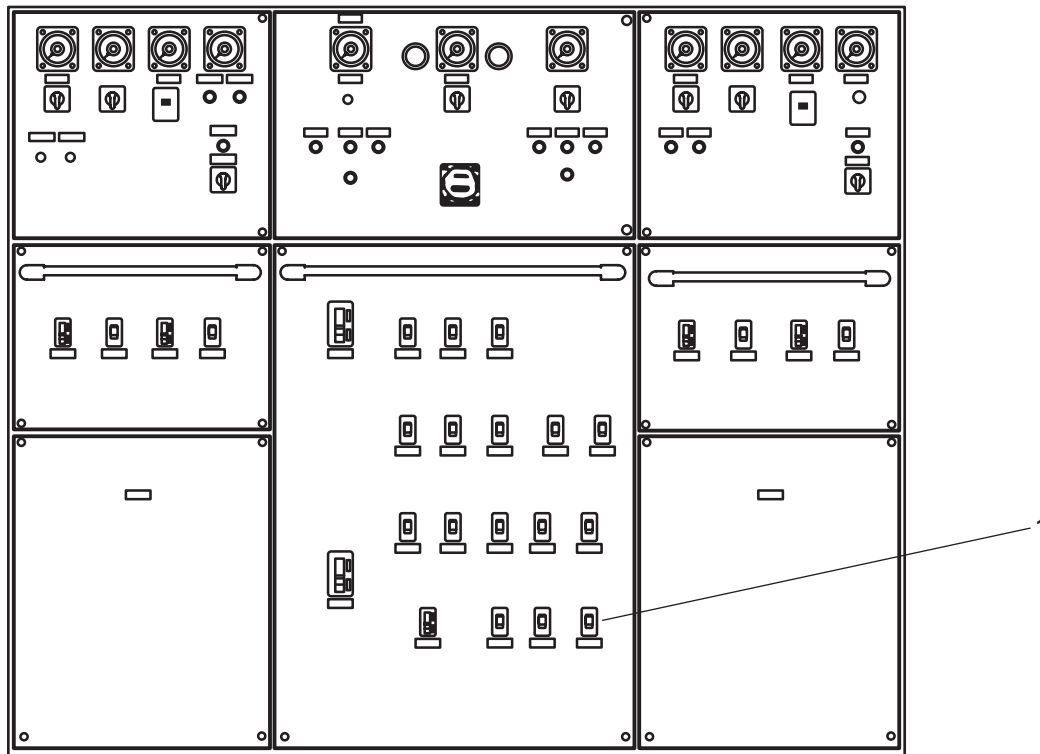

Figure 18. EOS Main Switchboard
- a. At the main switchboard in the EOS, set the AFFF PUMP circuit breaker (figure 18, item 1) to ON.